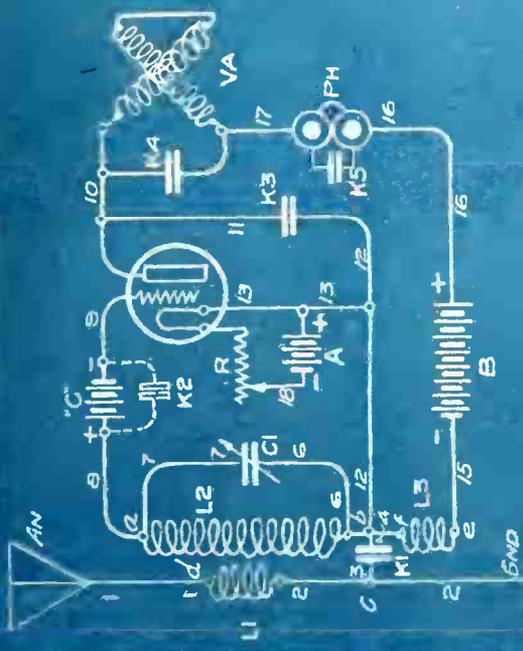

FIG. 3
There have been no radical changes in the principles, but small refinements made here and there which will make the set easier to handle and much more compact. Those of you who are familiar with the original circuit will quickly note the changes that have been made by consulting the schematic diagram in Fig. 3, and the wiring diagram layout of Fig. 1, shown in the actual RADIO AGE blueprints in this issue.
For the assistance of our readers who are not familiar with conventional circuit diagrams, we have shown the wiring diagram in picture form in Fig. 1, where all the apparatus is drawn out in detail. This is further assisted by the isometric view of Fig. 2, which shows the installation of the apparatus in its proper relative positions, together with such of the wiring that can be seen from the back of the panel. All of the parts in the three illustrations are given the same letters and figures so that the parts can easily be traced from one drawing to the others. The schematic drawing of Fig. 3 is for the use of the more advanced students who wish to see clearly the functioning of the circuit, and to whom a drawing of this sort means more than the isometric and picture diagrams. The isometric is useful for the layout of parts, but in making the actual wiring connections we advise the use of either Fig. 1 or Fig. 3.
At (K3) is a 0.006 mf. fixed bypass condenser which is very effective in stabilizing the circuit and in reducing the resistance to the radio frequency current in the plate circuit. Again, it forms a capacious feed-back from the plate to the grid which materially increases the range and signal strength of the circuit. By examining Fig. 3 it will be seen that some plate energy passes to the primary through (K1) and therefore aids sharp tuning in the plate circuit. The phones (PH) are fitted with the 0.001 mf. bypass condenser (K5) which usually is of value in obtaining clear reception.